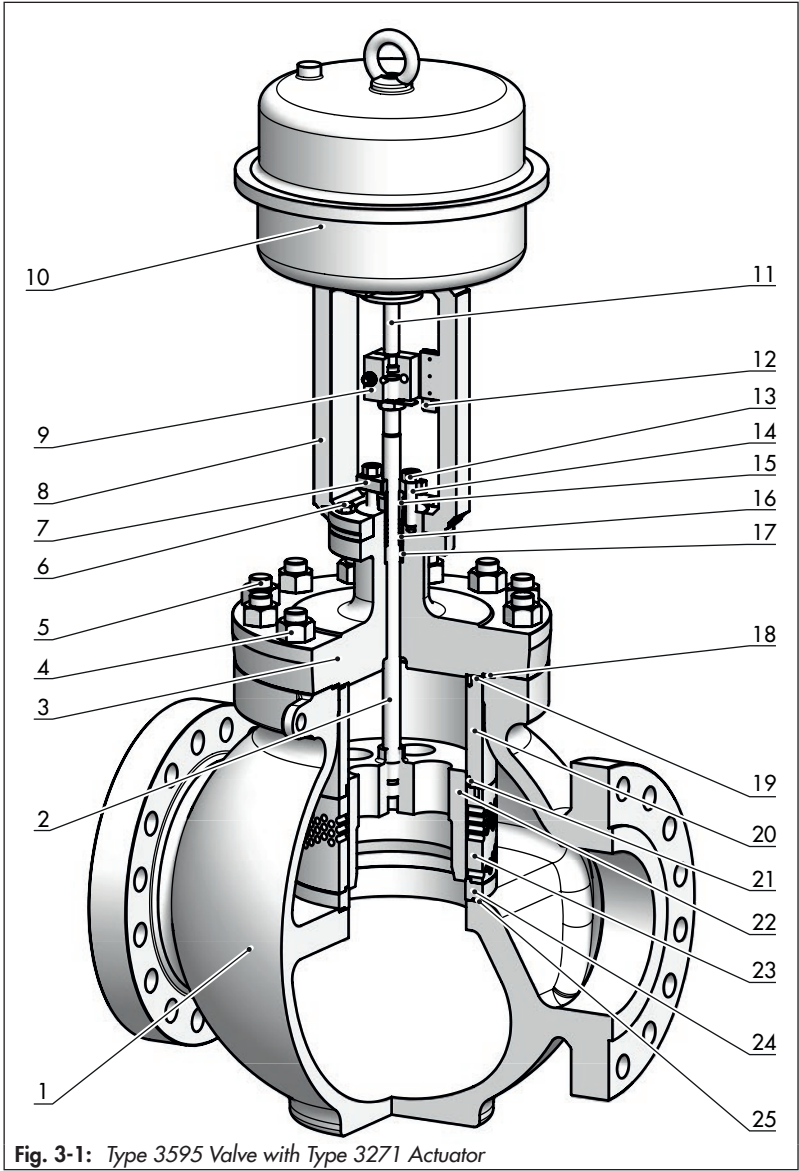

Fig. 3-1: Type 3595 Valve with Type 3271 Actuator
See Fig. 3-1
**Legend for Fig. 3-1**